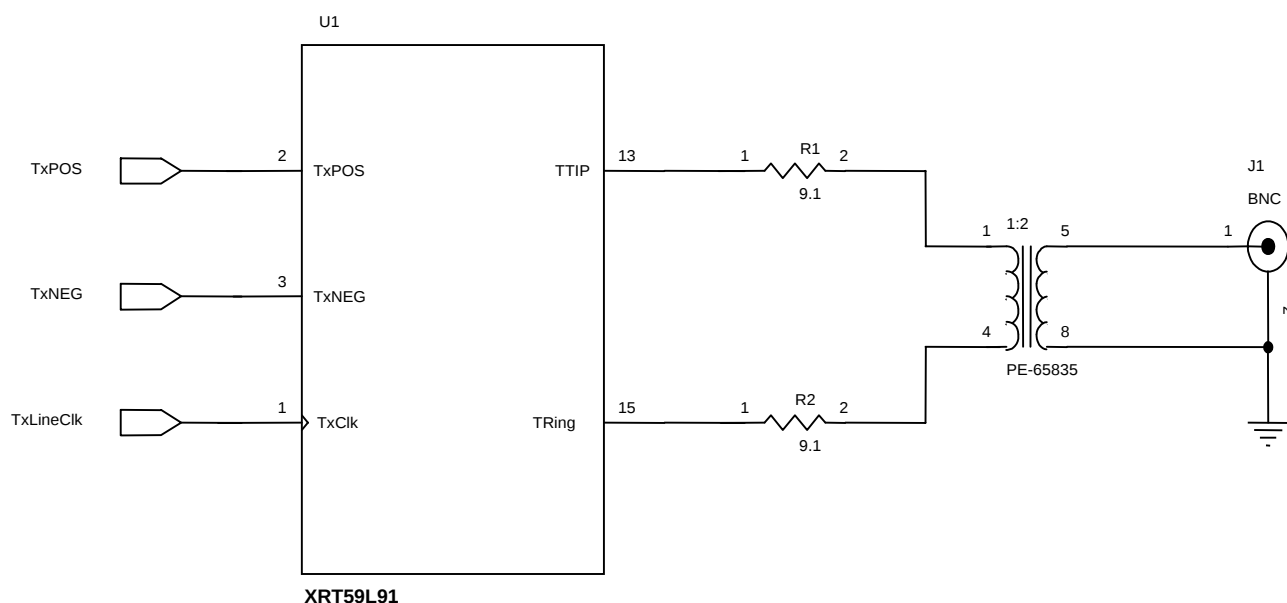

Figure 5. Illustration of how to interface the Transmit Section of the XRT59L91 device to the Line (for “ 75Ω ” Applications)
In both applications (e.g., 75Ω or 120Ω), the user is advised to interface the Transmitter to the Line, in the manner as depicted in Figures 5 and 6, respectively.
1. Figures 5 and 6 indicate that for both “75Ω and “120Ω” applications, the user should connect a 9.1Ω resistor, in series, between the TTIP/TRing outputs and the transformers.
2. Figure 5 and 6 indicate that the user should a “1:2 STEP-UP” Transformer.